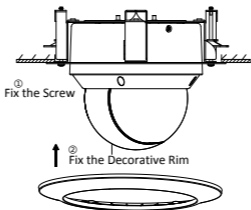

Figure 2-64 Assemble the Decorative Rim
- Fix the decorative rim with the bubble and the decorative rim will be attached to the in-ceiling bracket automatically, as shown in Figure 2-64.